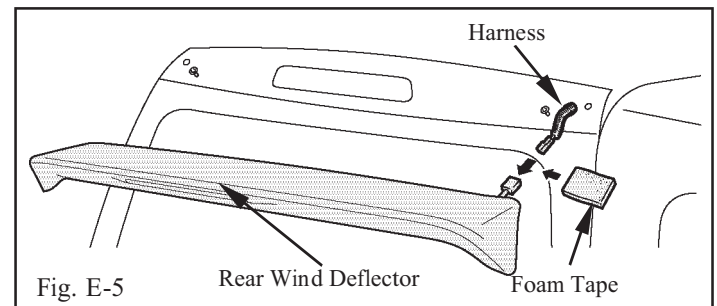

Fig. E-5
- ⊘ 6. Connect the wind deflector harness connector to the jumper wire harness and wrap connectors with foam tape. (Fig. E-5)